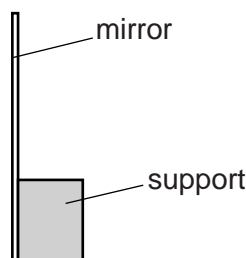

Fig. 3.4
- (v) Plane mirror fixed to a wooden support so that it stands vertically, as shown in Fig. 3.4. The height of the mirror must be at least the height above the bench of the top of the lens in its holder. The width of the mirror must be at least the diameter of the lens.